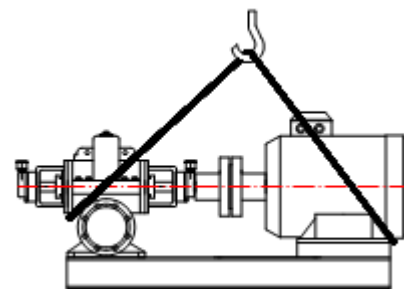

Figure 3: Transport of Pump Group
- Install the pump on the concrete base as illustrated in Figure 3.